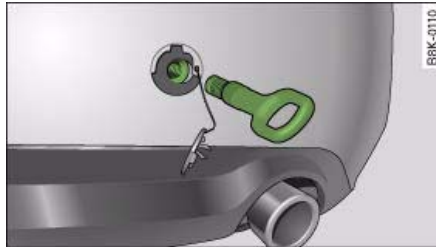

Fig. 240 Rear bumper:
- To detach the cover cap from the bumper, firmly press the lower part of the cap inwards to release it ⇒ fig. 240.